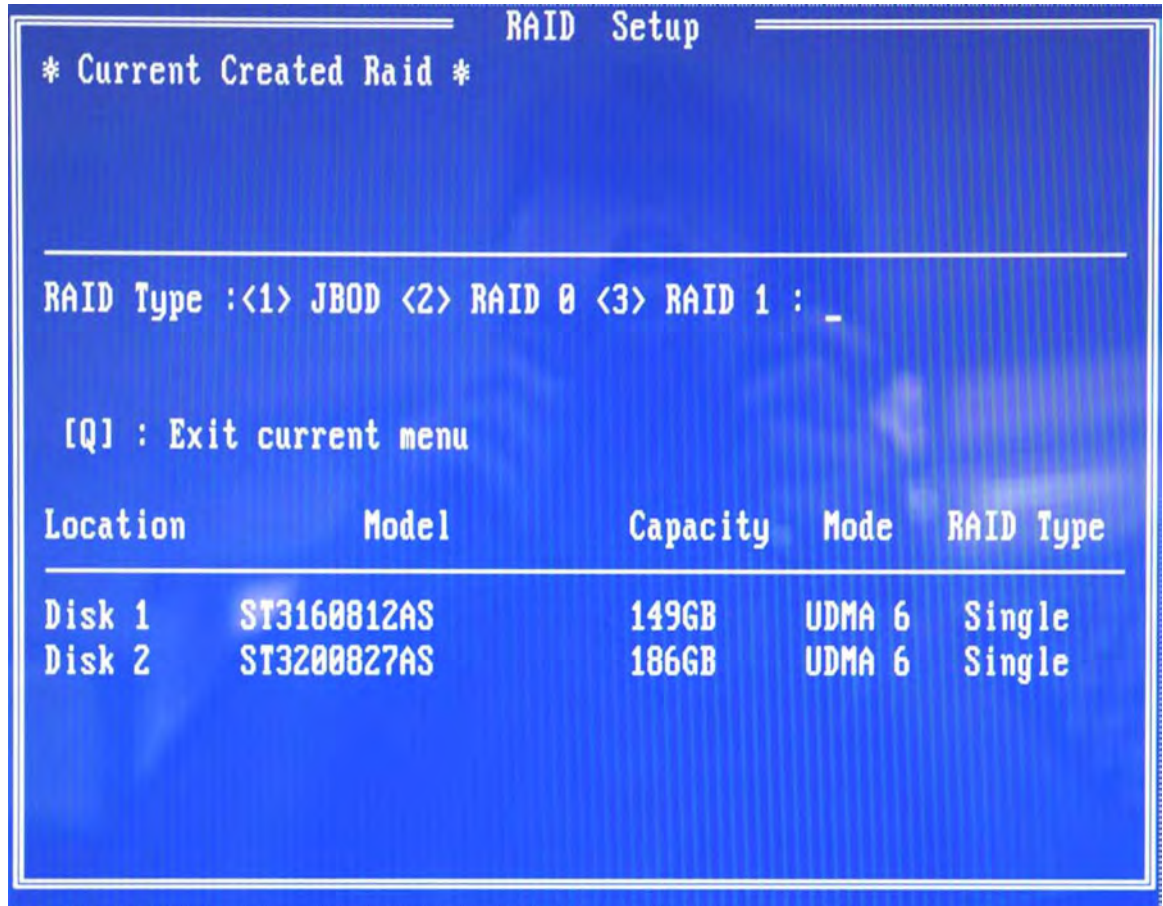

Figure D-6: Create RAID
- Step 5:** You will then be prompted to select the RAID configuration type you wish to install. JBOD, RAID0 or RAID1. Select the RAID configuration you want to use (see **Figure D-6**).